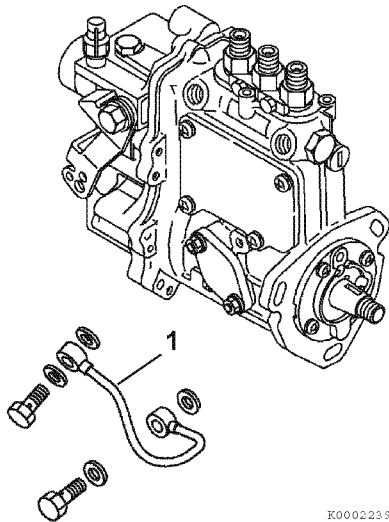

Figure 7-27
11. Reinstall the lube oil line (1, **Figure 7-27**).